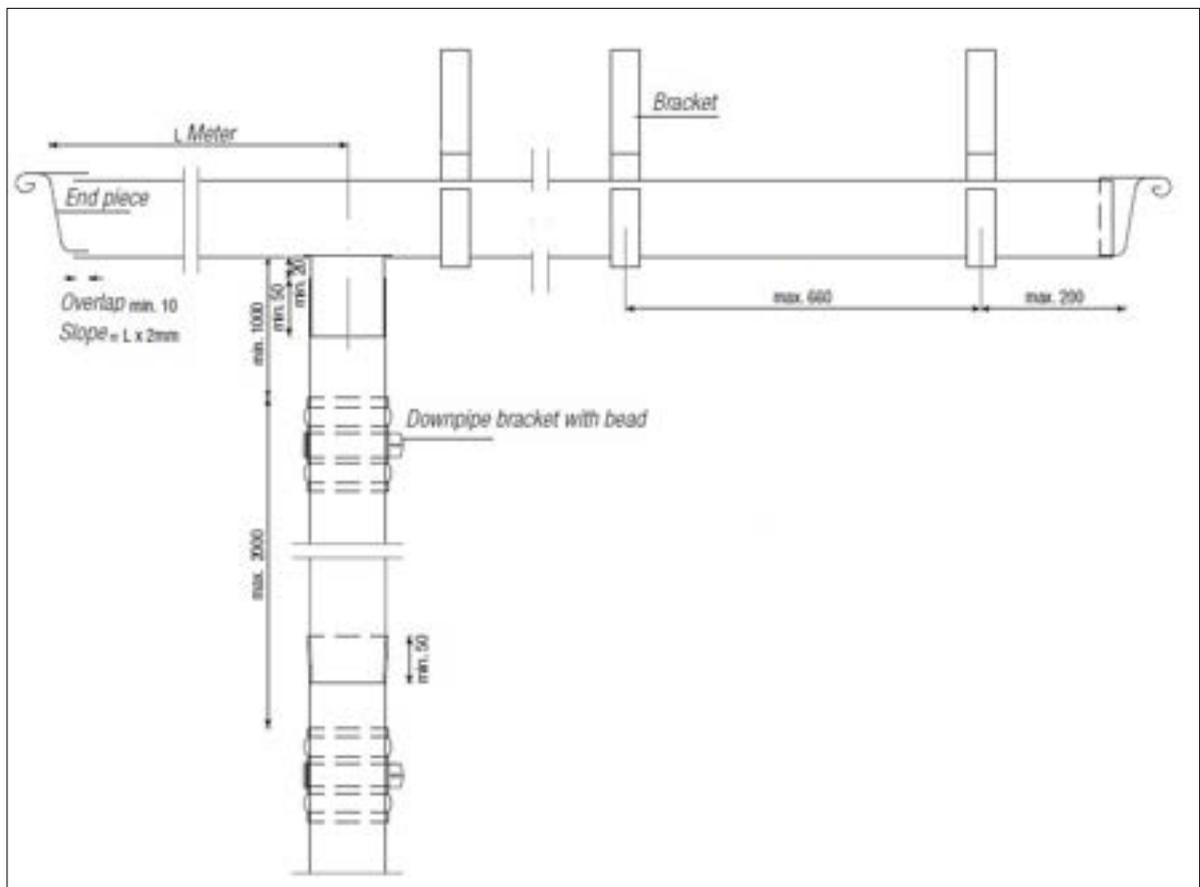

Figure 8.1.7
- The brackets must be attached at a maximum of 2 meters distance, and the upper bracket must be installed at least 1 meter under the gutter bottom, see figure 8.1.7.